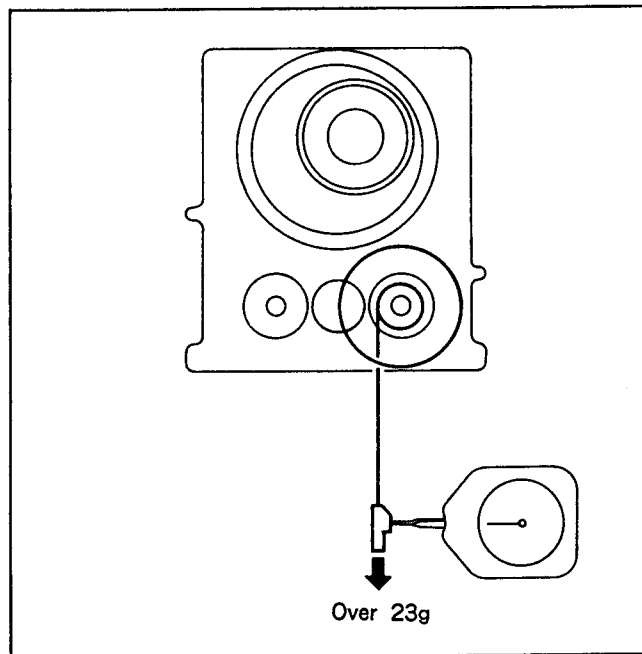

Fig. 7-62.
**2. T main brake torque (See Figs. 7-62. and 7-63.)**